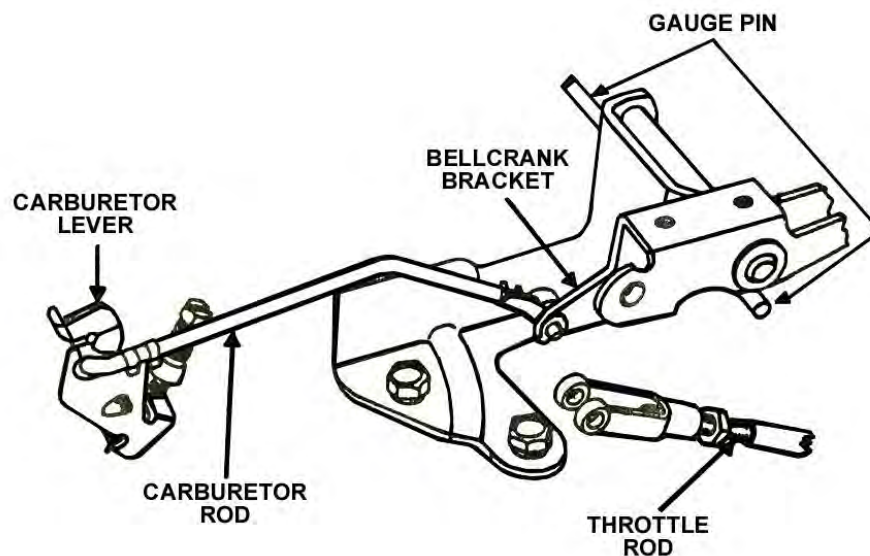

Figure 2
1. On a Carter replacement, disconnect the carburetor rod from the bellcrank bracket and reverse stud on the carburetor rod to enter the right side of the bellcrank bracket (see Fig. 2). It is necessary to use the left hand throttle rod retainer to refasten the rod (included in package).